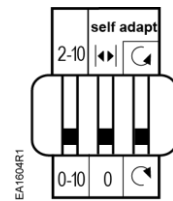

Figure 15. Self-adapt Switch in OFF Position (Factory Setting).
- To use the entire 0(2) to 10V input signal to control the adjusted range, raise the tab located on the lower left-hand side of the actuator and locate the DIP switches. See Figure 15.